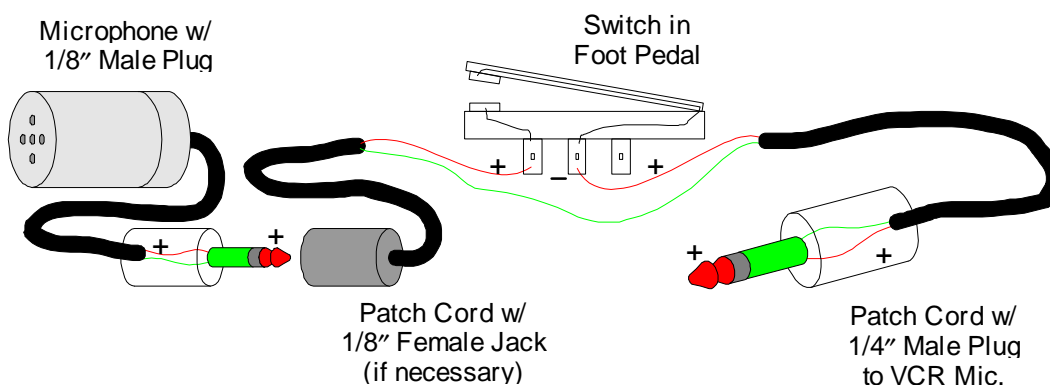

Figure 2
1. Mount the microphone on the driver's visor, routing the cable to the foot pedal. The cord will more than likely reach the pedal, but not the VCR microphone jack. A patch cord is necessary to reach from the VCR, to the foot pedal. (Refer to **Figure 2** for steps 1-5.)